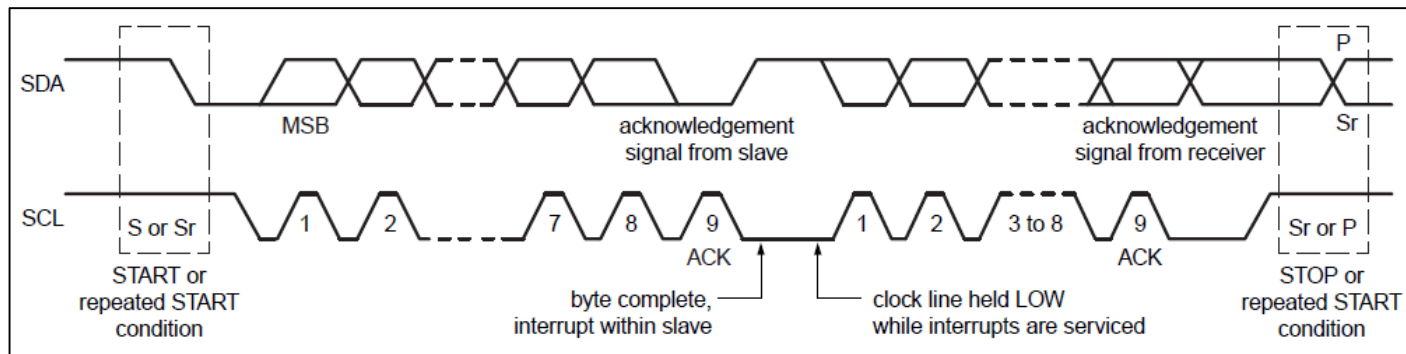

Figure 7 – I2C Bus Communication [6]
- Figure 7 depicts a standard transaction over an I2C bus.